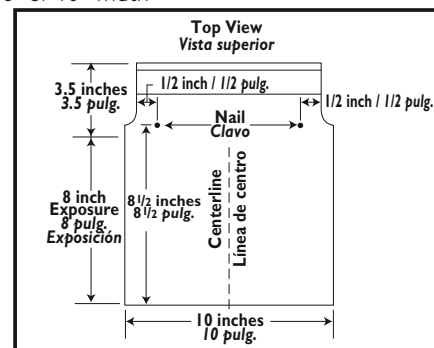

Figure 2
- 1a. Begin **ridge** application opposite the prevailing wind direction. (Fig. 2)
2. Cut first hip and ridge 8" back from the exposed end. Use the top portion of the shingle with sealant as the "starter" hip or ridge shingle. (Fig. 2)